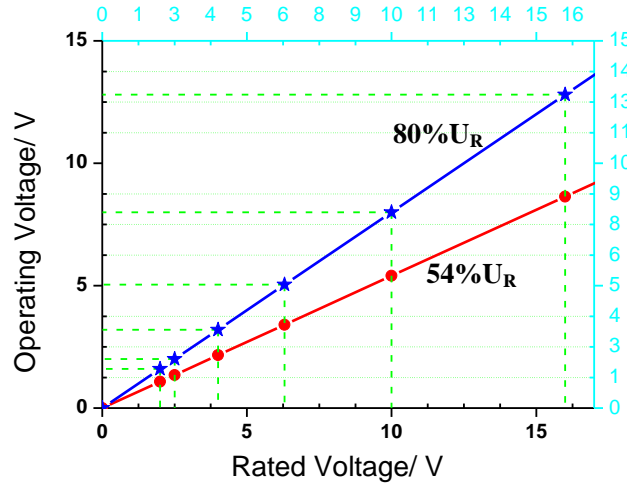

Fig7.5-1
- a. The operating voltage of tantalum capacitors used in low impedance circuits, such as filters for power supplies (particularly switching power supplies), should be derated to less than **54%** of rated voltage. In other case, keep the operating voltage below **80%** of rated voltage. Refer to **Fig.7.5-1** for detail:
- c. Connecting a resistor in series with capacitor is suggested to alleviate the shock caused by excessive momentary current. Please connect a protecting resistor of 3Ω/V or higher in series with the capacitor to keep current below 300mA. If protecting resistors could not be applied; please make sure operating voltage is below 54% of rated voltage (Fig.7.5-1).